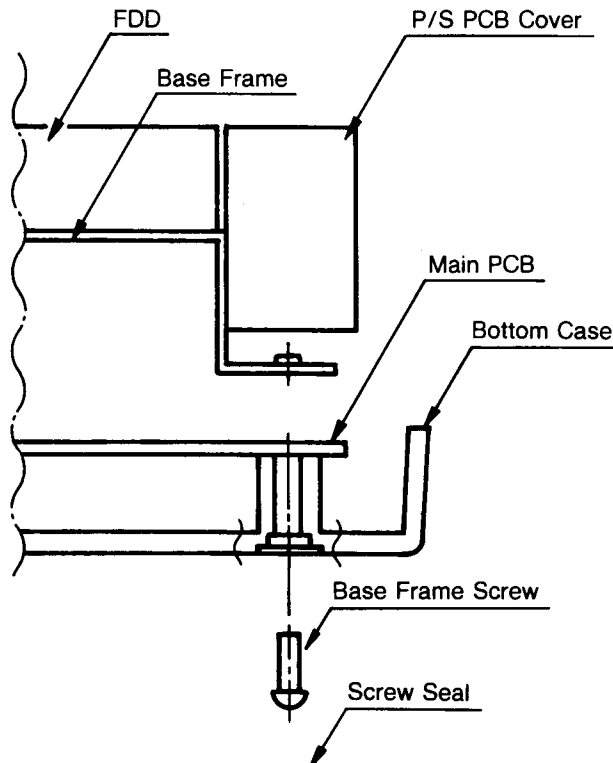

Figure 2-13. Right Side of Base Frame
- (1) Turn over the Bottom Case, peel off two screw seals with tweezers and remove two Base Frame screws. (Figure 2-13)